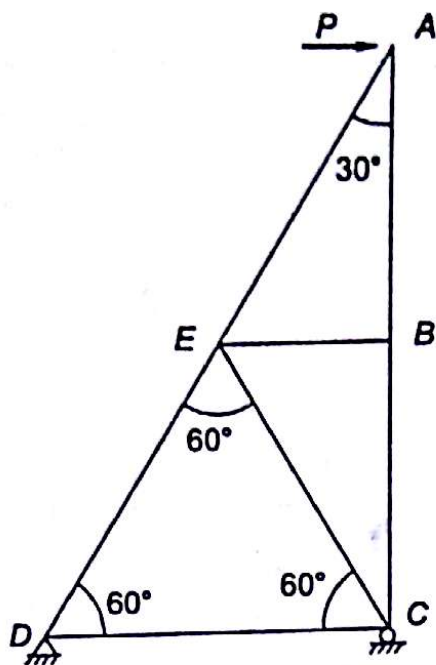

Fig. 4.42
- 4.13 A truss $ABCDE$ is shown in Fig. 4.42. Truss is hinged at D and roller supported at C . How many zero force members are there in truss?